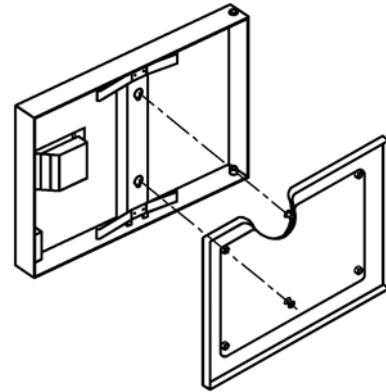

Figure 5-1
- a. Remove door gasket assembly (see Figure 5-1)